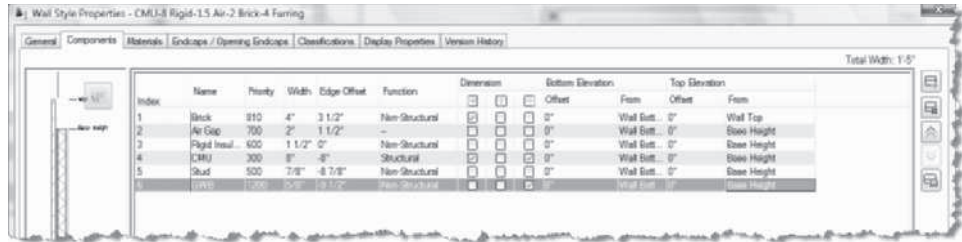

FIGURE 3.44 Setting top elevations to Base Height for wall components
7. In this step, you will modify the top elevation of the components to restrain all components except the Brick veneer component. Edit the **Top Elevation** to **Base Height** for the following components as shown in Figure 3.44: **Air Gap, Rigid Insulation, CMU, Stud, and GWB**. The **Base Height** setting will restrict the components to the height of the wall when the **RoofLine** command is applied to the wall. Click **OK** to dismiss the **Wall Style Properties** dialog box.